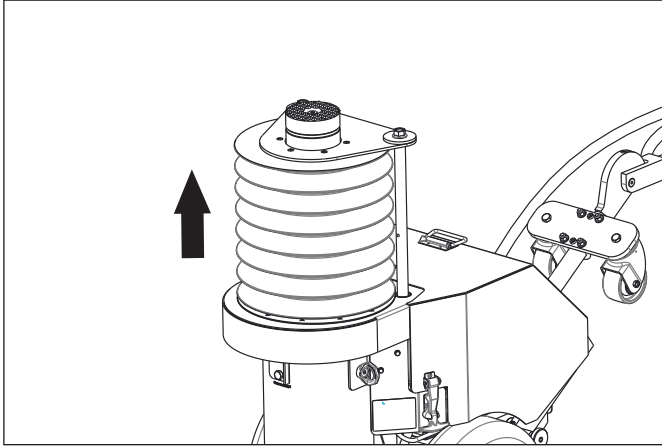

Figure 17, Fully Extending the Cylinder
- a. Depress and hold the pendant UP button to raise the cylinder. Continue holding the button until the cylinder is fully extended and the jack air motor stops running. See Figure 17.
- f. Check the air pressure gauge on the jack filter/lubricator. Verify that it indicates zero (0) psi/bar.